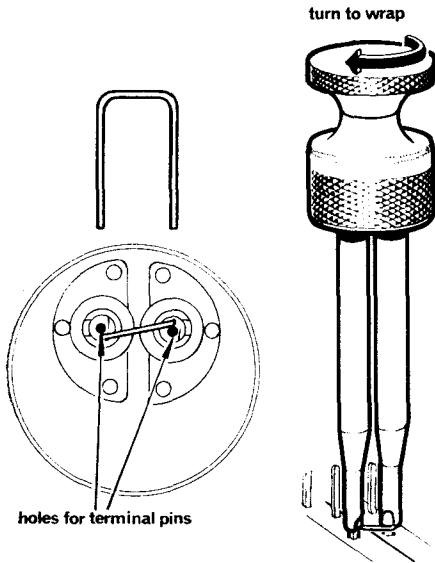

Fig. 25. Twin wrap
- (1) A U-shaped link of 24 SWG tinned copper wire is used (see Fig. 25).
- (2) Fit the link into the working heads of the double wrapping tool as shown in Fig. 25 and place the tool heads over the two terminal posts to be joined.
- (3) Apply gentle pressure and turn the end of the tool clockwise until the joint is complete.
- (4) Check each joint for the correct number of properly wound turns.
- (5) Check that the wire linking the posts is straight. Note that if the wire is not fitted to the tool exactly as shown in Fig. 25 slack may result which could cause a short circuit.